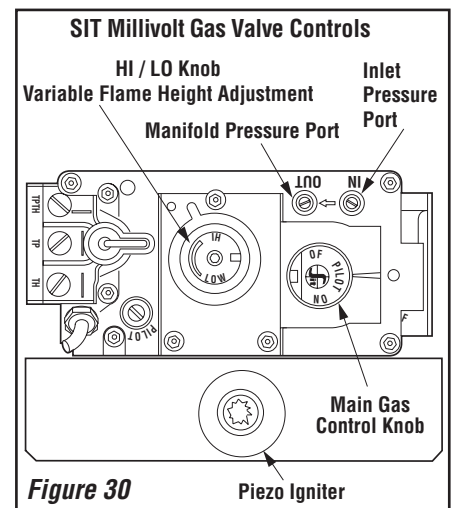

Figure 30
- Loosen setscrew at inlet pressure tap on upper right of control valve (see Figure 30).
With gas line installed run initial system checkout before closing up the front of the unit. Follow the pilot lighting instructions provided in the Homeowner's Care and Operation Instructions (or pull out the instruction label located in a holder on rear shield of stove). For piezo igniter location see Figure 30.